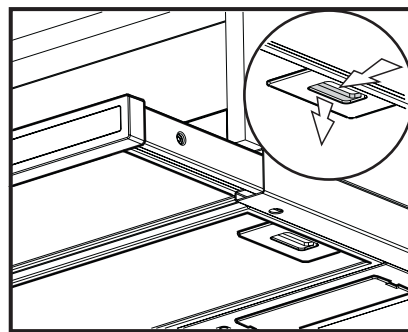

Fig. 3
- Press the handle that locks the grease filter first towards the opposite side and then extract downwards. **Fig.3.**